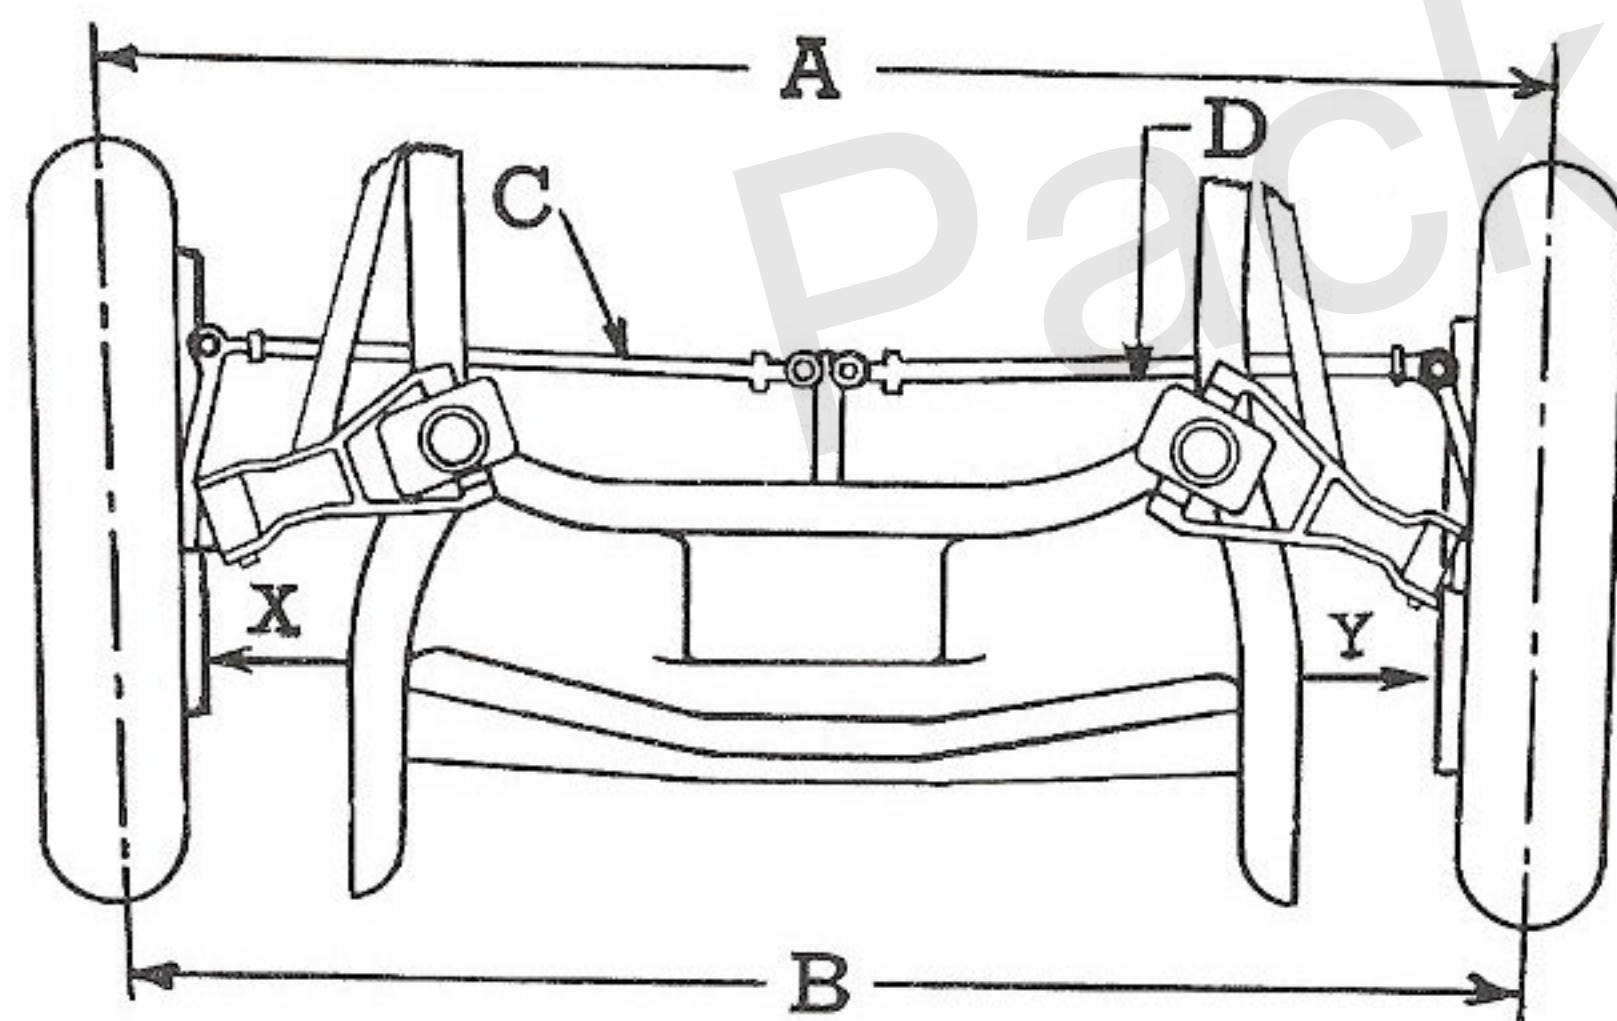

Fig. 24—Correct Toe-in Exists when Distance "B" is $\frac{1}{32}$ " to $\frac{1}{16}$ " Shorter than "A"
1. Inflate all tires to recommended pressure. Adjust front wheel bearings. Center the steering worm on "high spot" and front wheels straight ahead before measuring. Dimension "X" Fig. 24 from brake backing plate to frame at first rivet back of bumper on left side, should be same within $\frac{1}{8}$ " as "Y" on right side. If "X" and "Y" are not the same, lengthen the cross tube on short side to make them equal.
3. Measure the distance "B," Fig 24, at or near hub height, then measure the distance "A" at same height at rear of car. Distance "B" should be $\frac{1}{32}$ to $\frac{1}{16}$ " shorter than "A." Use maximum toe-in with maximum camber and low limit of toe-in when camber is at minimum value. If toe-in is not within these limits adjust as outlined in next paragraph.